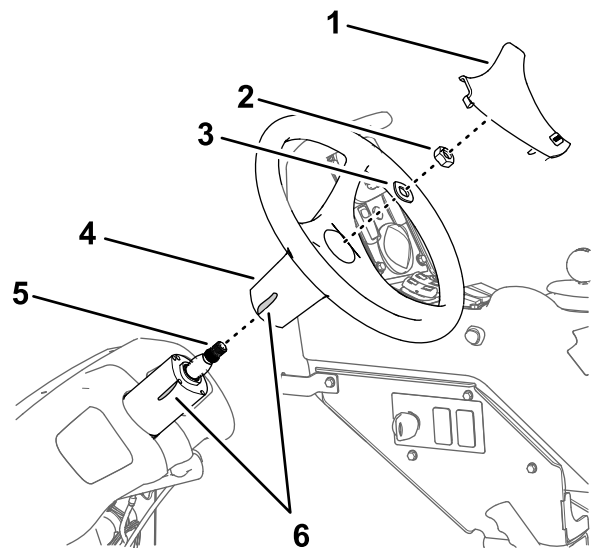

Figure 161
1. Mark the position of the steering wheel to the steering valve with a piece of tape (Figure 161).
- Remove the cover from the steering wheel (Figure 161).
- Remove the nut (5/8 inch) and washer (5/8 inch) that secure the steering wheel to the steering valve, and remove the steering wheel (Figure 161).